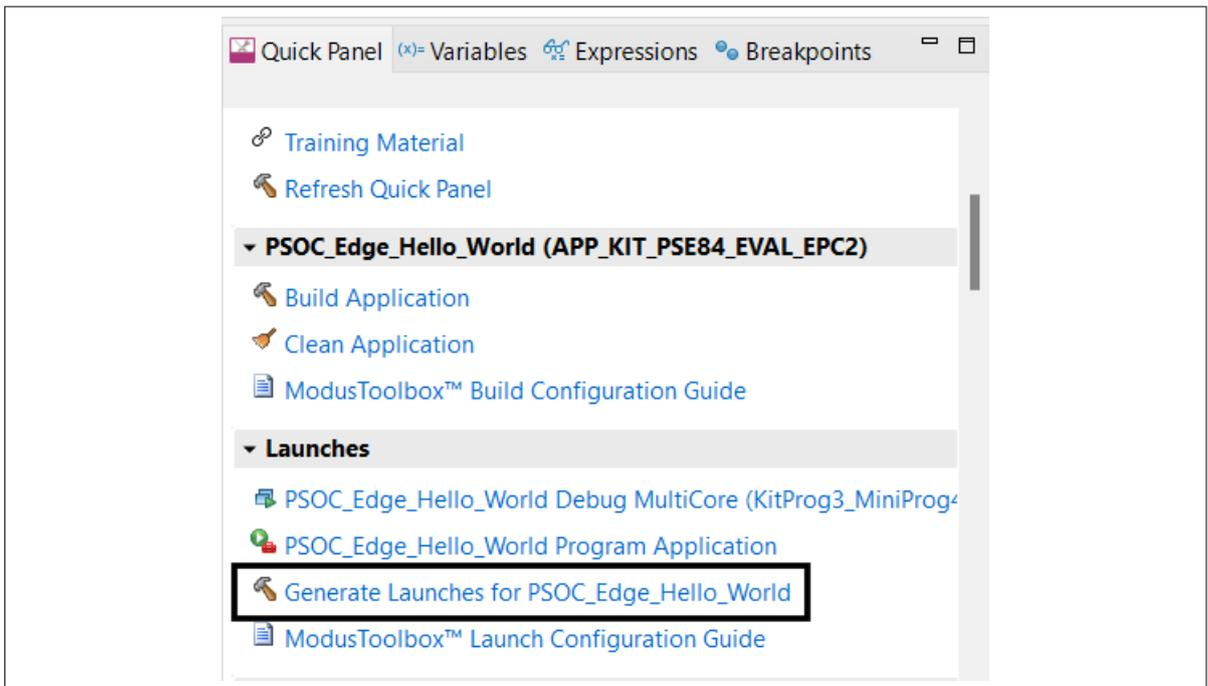

Figure 16 Generate launches
- 15. Next, in the ModusToolbox™ IDE, generate launches for your application as shown in Figure 16. Alternatively, you can execute a make eclipse/make vscode in the terminal to regenerate the launch configurations